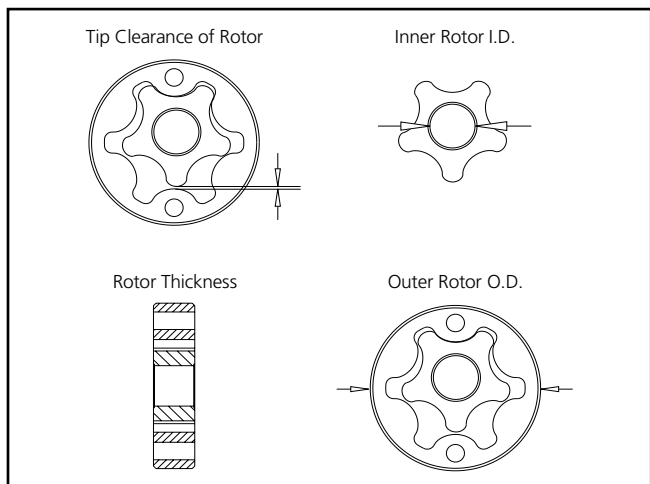

Figure 9-6. Inner and Outer Rotor Check Points
1. Inspect the inner and outer rotors for damage and wear (Figure 9-6).